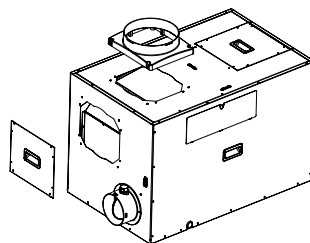

Figure 10
• **Figure 10:**
1. Install the air intake flange onto the top cover plate as shown in Figure 10, and tighten the screws (ensure the correct installation direction and that there are no gaps around the air intake flange).